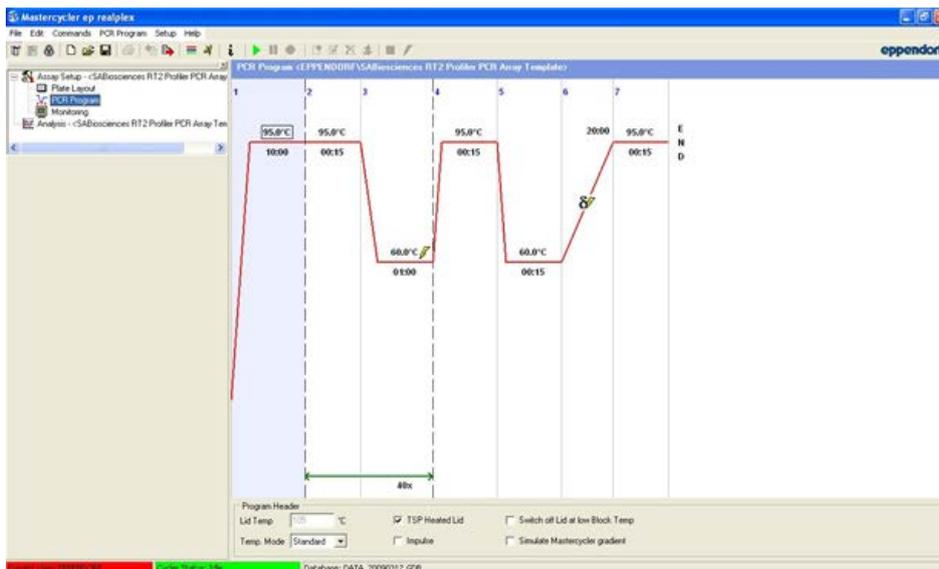

Figure 8. Final PCR Program screen.
14. When the PCR Program setup is complete, the window should appear as in Figure 8.